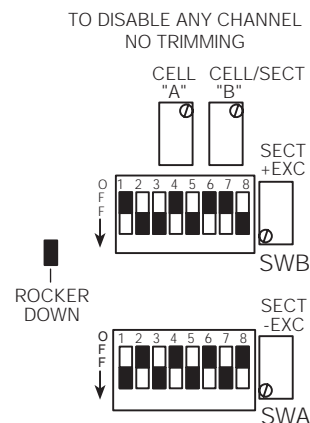
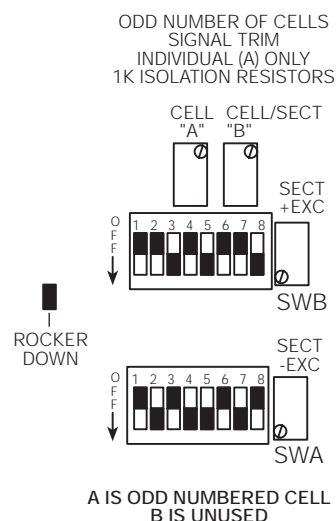

Figure 4-1.
Figure 4-2.
1. Connect all cells with trimming disabled as shown in Figure 4-1.
3. If you have an odd number of load cells, connect the odd cell to a Cell A input unused cell connector. Configure that connector as shown in Figure 4-2. You must disable the trimming to any unused cell connectors, shown in Figure 4-1.
Remember to disable any unused channels as shown in Figure 4-1.
If you think the board may be damaged, record the current DIP switch settings, then reset the DIP switches to disable all trimming as shown in Figure 4-1. Disconnect the ground wire from the JB1010. This effectively hooks all cells in parallel, disables all trim and isolation, and removes any leakage source to ground. If the system problems still persist, check the load cell cable and load cells for damage.